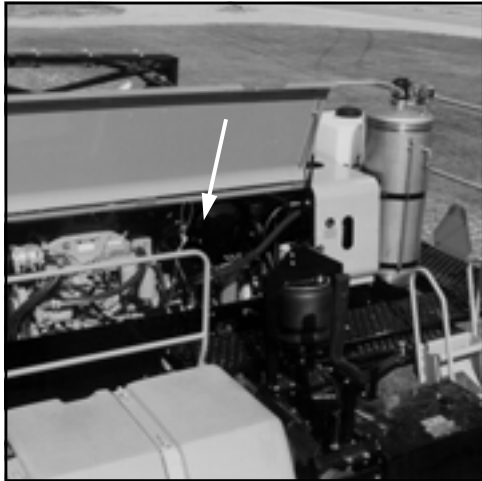

FIG 8.14
**LOCATION** – The engine air intake filter is accessible by lifting the left engine compartment hood (fig. 8.14).